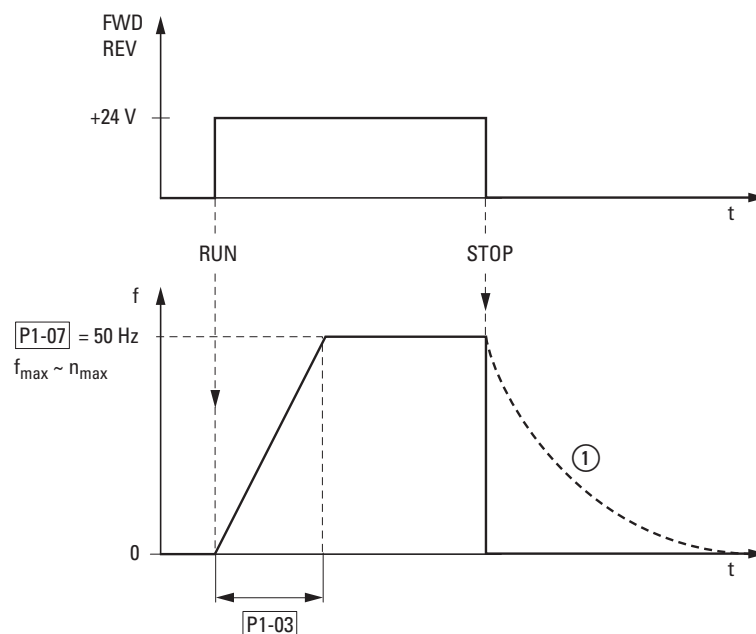

Figure 48: Start-Stop command with maximum setpoint value voltage
Figure48 shows a good example of the process, if the release signal (FWD/REV) is switched on and the maximum setpoint voltage (+10 V) is applied. The speed of the motor follows the output frequency depending on the load and moment of inertia (slip), from zero to n_{max} .
If the release signal (FWD, REV) is switched off during operation, the inverter is blocked immediately (STOP). The motor comes to an uncontrolled stop (see ① in Figure48). The acceleration time is set in parameter P1-03.